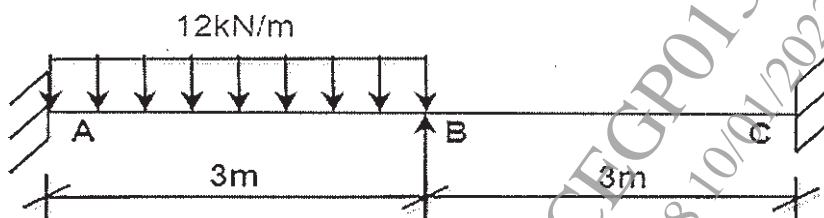

Figure 2
b) Find the rotation B (θ_B) for the beam with uniform flexural rigidity as shown in figure 2. [6]